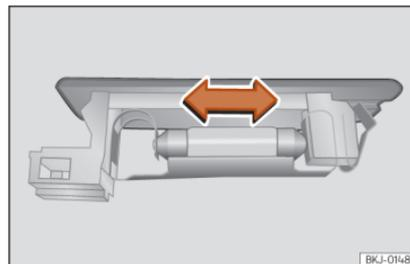

Fig. 65 Boot light.
- Press the bulb sideways and remove it from its housing »» **Fig. 65**.